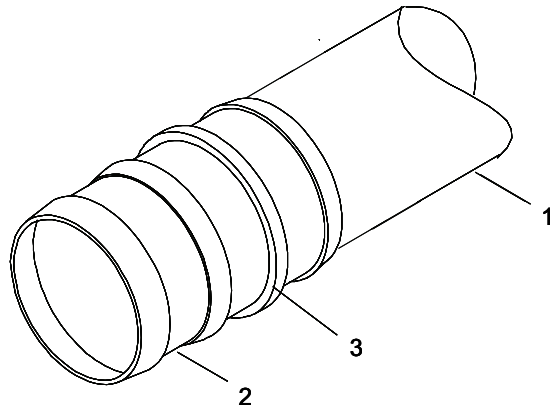

Figure 8. Hose Assembly Repair.
20. Install the hose assembly (Figure 8, Item 1) on the hose splice (Figure 8, Item 2) until it is flush with the machined stop (Figure 8, Item 3) in the center of the hose splice (Figure 8, Item 2).